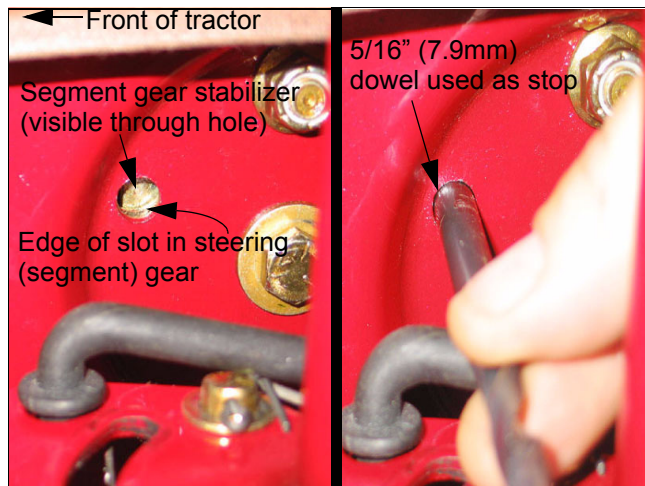

Figure 14.17
- 14.17. To **center the steering gear**: See Figure 14.17.